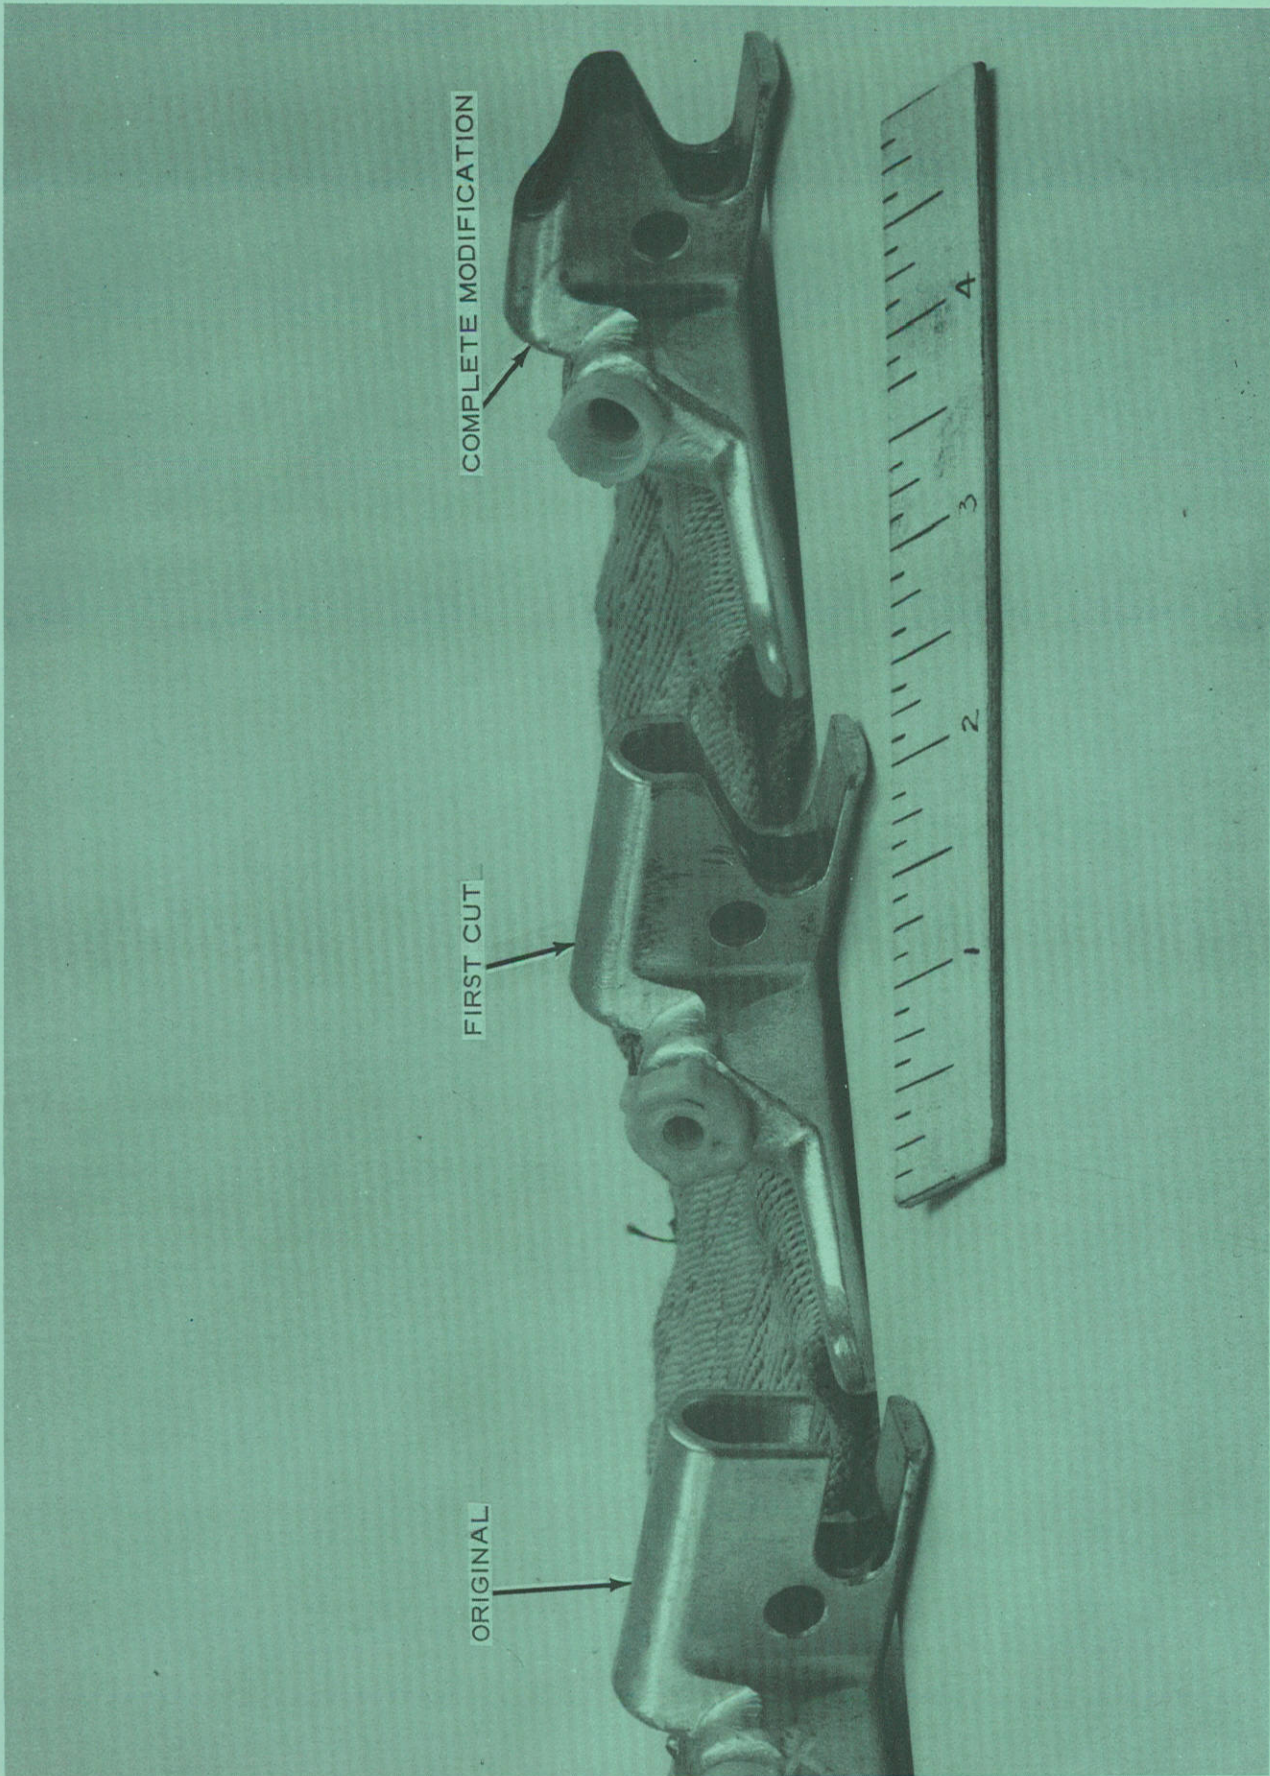

Figure 1
- (e) Round off the two points thus formed and remove all rough edges. Polish with abrasive cloth, see Figures 1 and 3.